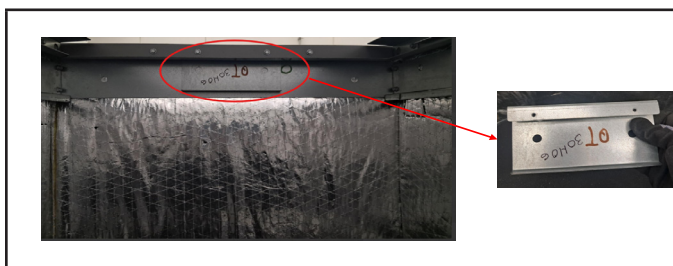

FIGURE 22.
- 1 - Remove the bracket (not used in downflow) before installing coil See FIGURE 22.